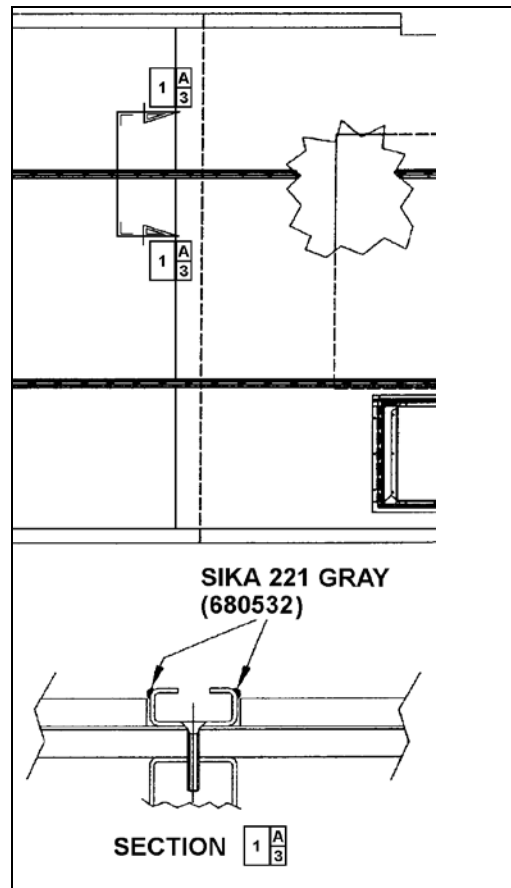

FIGURE 86: APPLICATION OF SIKA 221 GRAY 18641
8. Apply Sikaflex 221 gray sealant (680532) alongside passenger seat fixing tracks (refer to Figure 86).